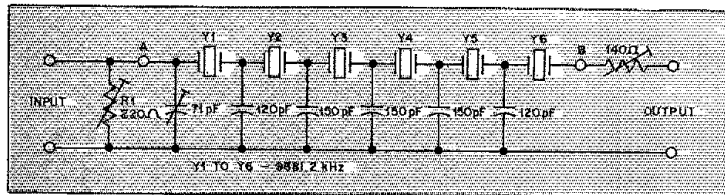
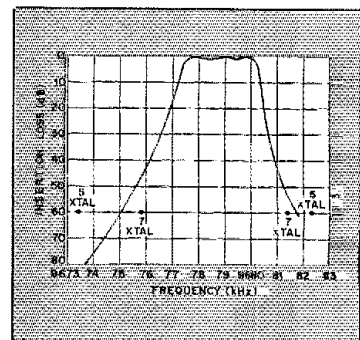

Fig. 9 — Six-section crystal ladder filter.
Fig. 10 — Six-section filter response. Response of five- and seven-section filters is also indicated.
By adding three more crystals, the filter in Fig. 9 was produced. Values used for the capacitors were derived from the three-section filter described previously. As expected from the previous measurements, stop bands of greater than 70 dB were easily produced and the region requiring the most effort was again the passband. Besides adjusting R1 and R2, adjustment of C1 and C7 also became necessary. In fact, C7 was eventually removed altogether, stray capacitance alone being sufficient in this position. As a final contribution to a flat passband, C2 and C6 were also slightly reduced and the resulting ripple in the response dropped to 1 dB.
-6 dB 2923 Hz, and at -60 dB 6698 Hz, giving a 60:6-dB shape factor of 2.29:1. The insertion loss, measured between points A and B in Fig. 9, is 3 dB. Fig. 10 shows the full frequency response.
using five and seven crystals, were also checked. The characteristics of these filters have not been given here, but the five-crystal filter had a shape factor of 2.93:1 and the seven-crystal filter exhibited a shape factor of 1.89:1. In both cases the 6-dB bandwidth was almost identical with the six-crystal filter. The response, at -60 dB only, is plotted in Fig. 10 for ease of comparison.